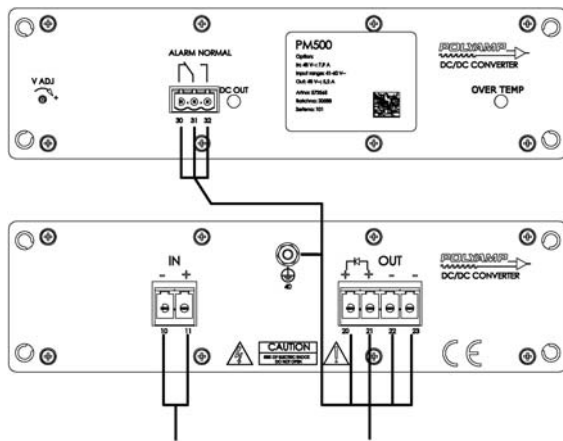

Figure 9. Input to output, case and alarm isolation voltage test
4. Connect your isolation tester between input and output. See Figure 9.
5. Raise the voltage of the isolation tester from 0 to 2.5kVa.c. The voltage should not be applied for more than one (1) minute or the Y-capacitors might be damaged.